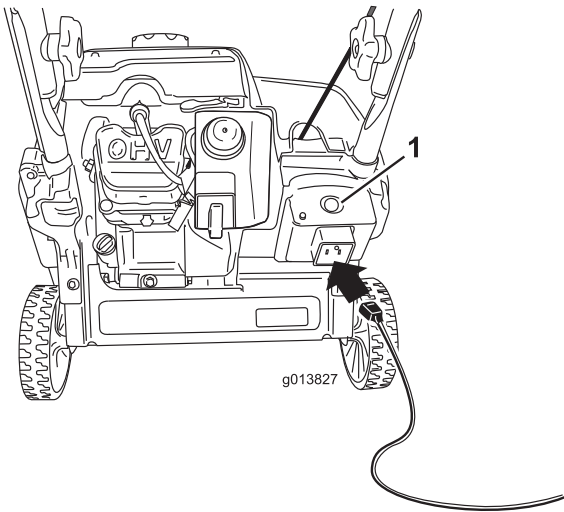
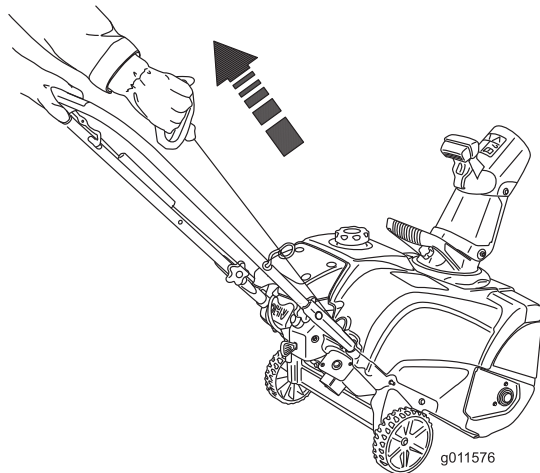

Figure 18
Figure 19
- 4. Connect an extension cord to a power source and the machine, and push the electric-start button (electric start only) as shown in Figure 18), or pull the recoil-start handle (Figure 19).